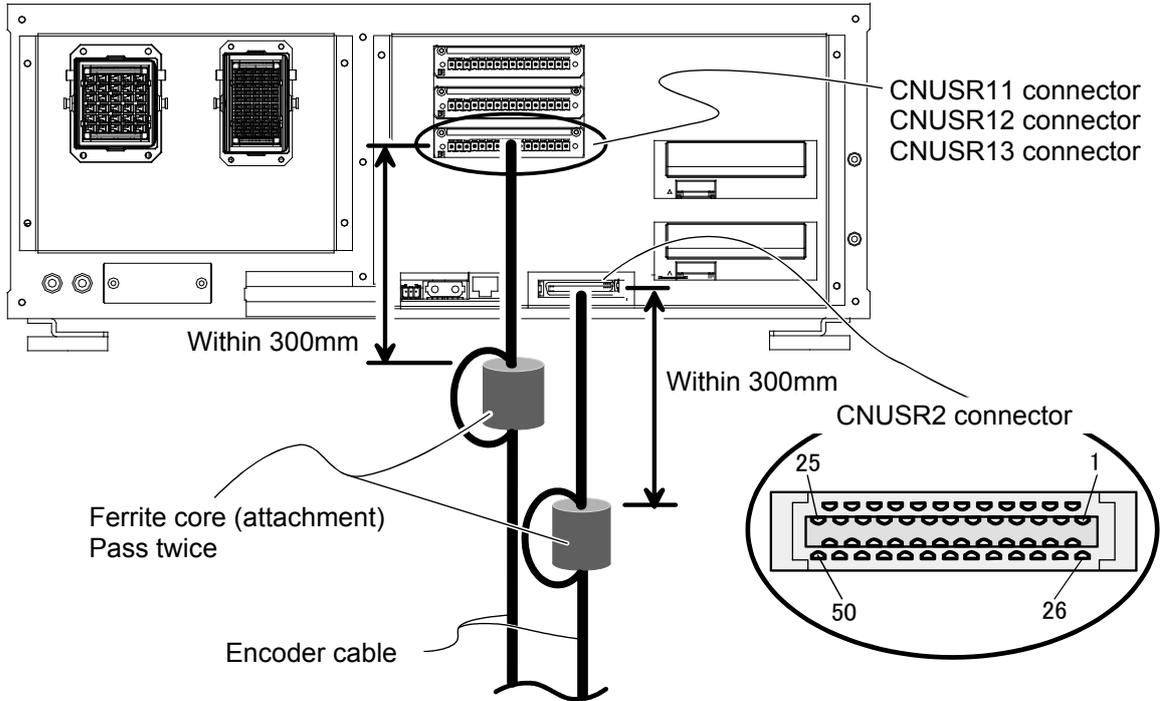

Figure 5-8 Installation of encoder cable (CR750-D series)
*CR750-D series: " Figure 5-8 Installation of encoder cable (CR750-D series)"